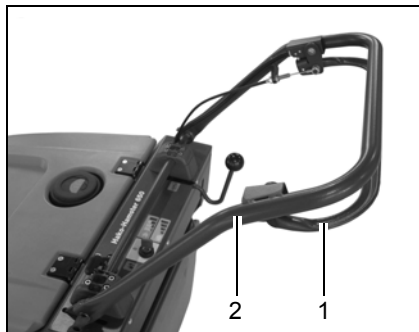

Fig. 11
1. Use your fingers to pull the drive bar (Fig. 11/1) against the handlebar (Fig. 11/2).
2. Steer the machine with the handlebar (Fig. 11/2) in the required direction.
1. Release the drive bar (Fig. 11/1). The machine decelerates and comes to a stop.